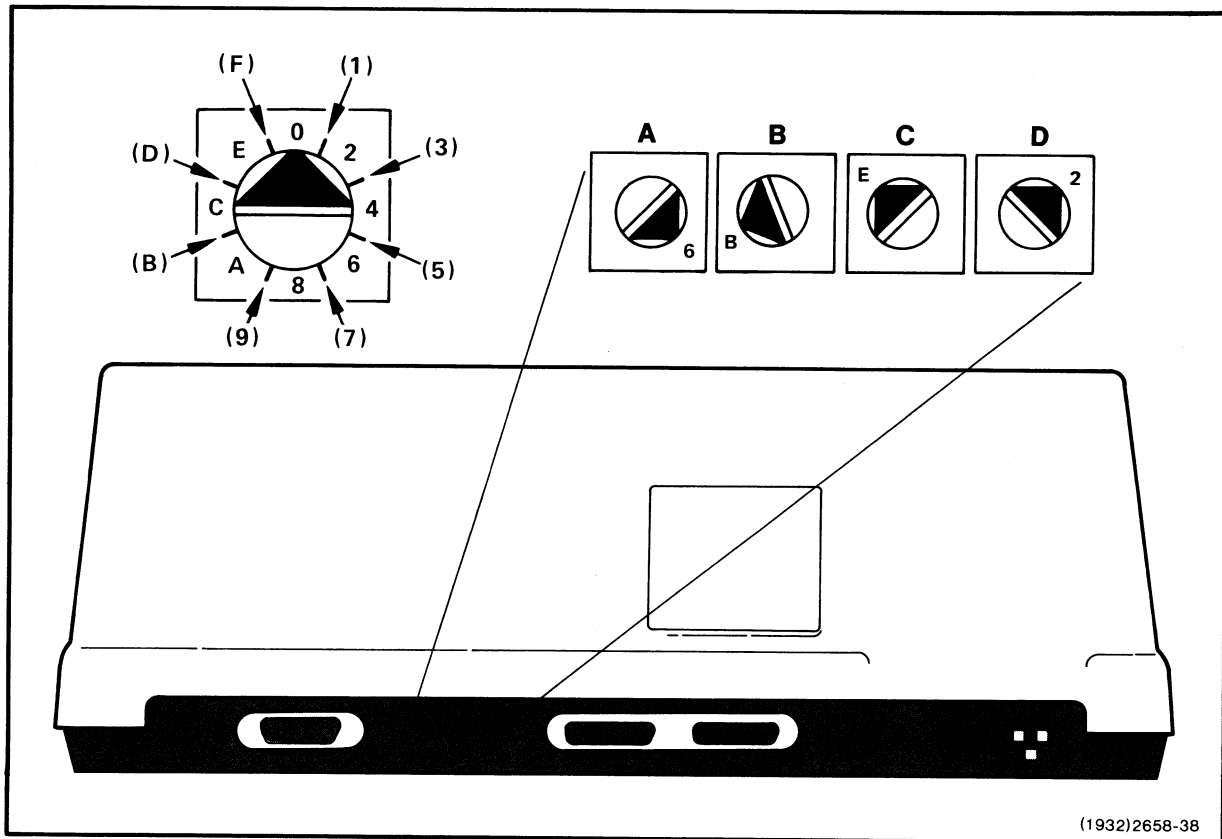

Figure 9-9. Plotter Switch Positions and Locations.
3. Set the plotter's rear-panel switches (Figure 9-9), as indicated in Table 9-2.